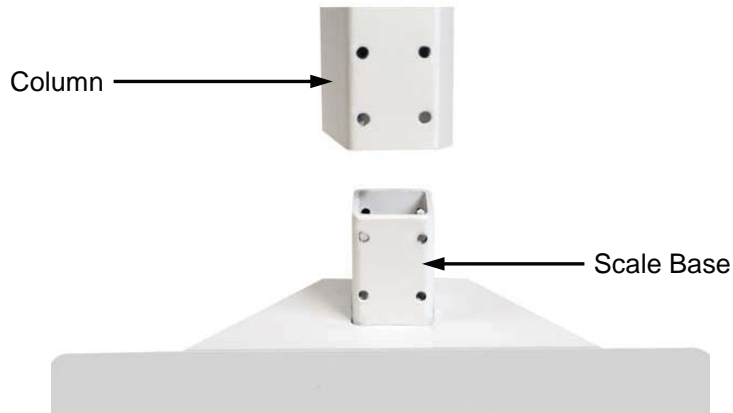

Figure 1. - Insert column onto scale base
1. Insert the column onto the scale base (shown in Figure 1), ensuring that the narrow side of the column faces the scale platform.
To power the scale using the optional 110-240V AC 50/60 Hz 12V DC wall plug-in AC power adapter, connect the small round plug from the AC adapter into the power jack on the back of the indicator and then plug the AC power adapter into the proper electrical outlet. Refer to Figure 1. On models requiring 240V AC, it is the customer's responsibility to obtain the correct AC power adapter plug.